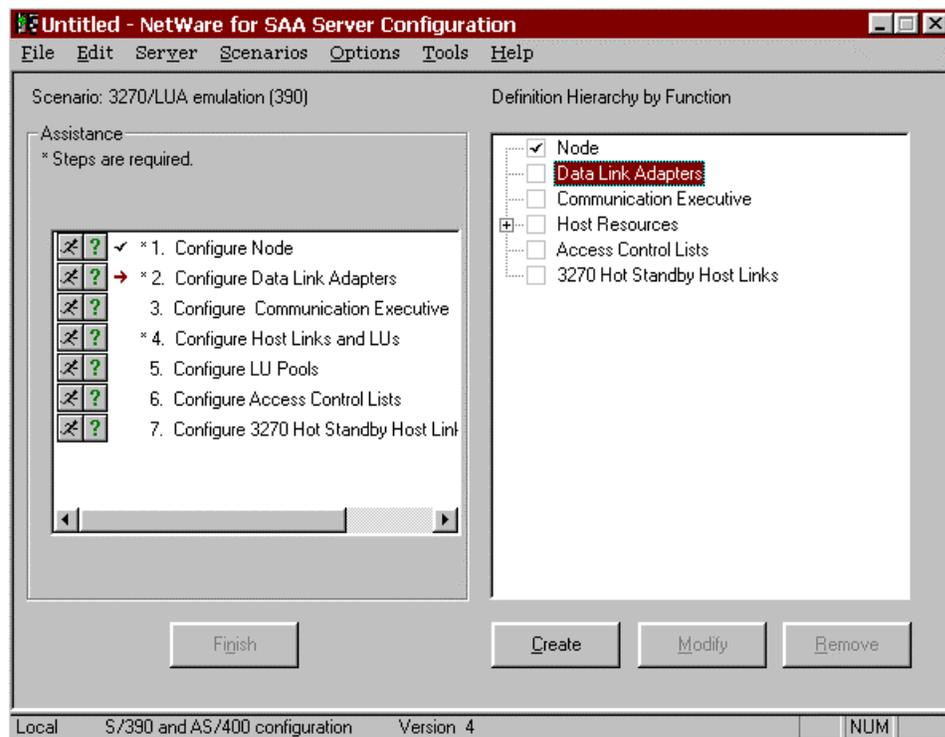

Figure 10-1. Version 4 Main Configuration Screen
1. From the main configuration screen, double click **Data Link Adapters** under Definition Hierarchy by Function. (Figure 10-1).